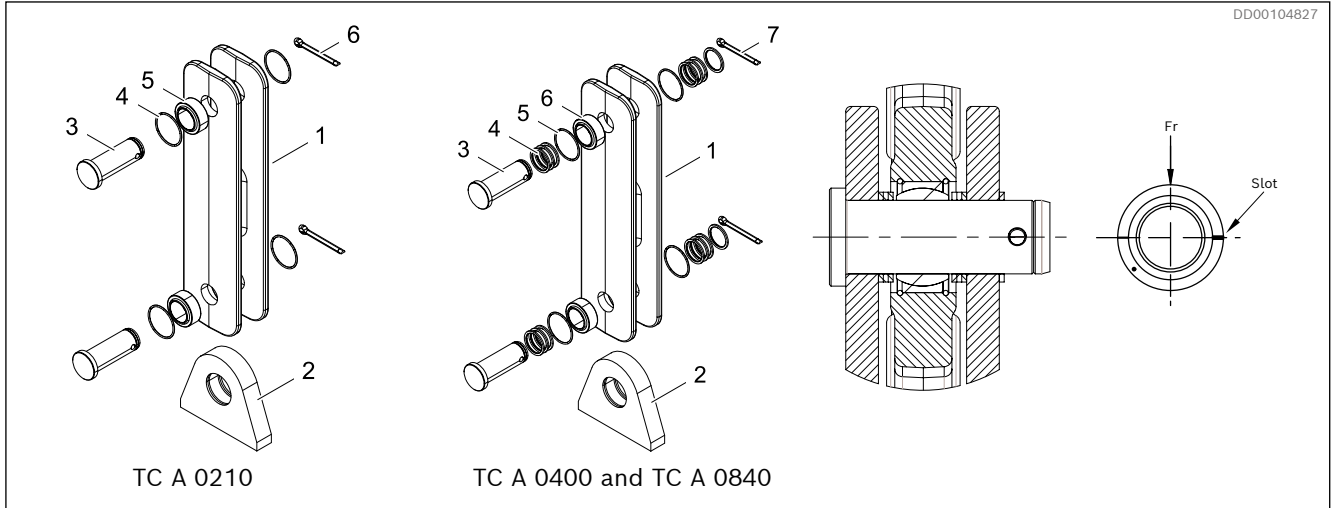
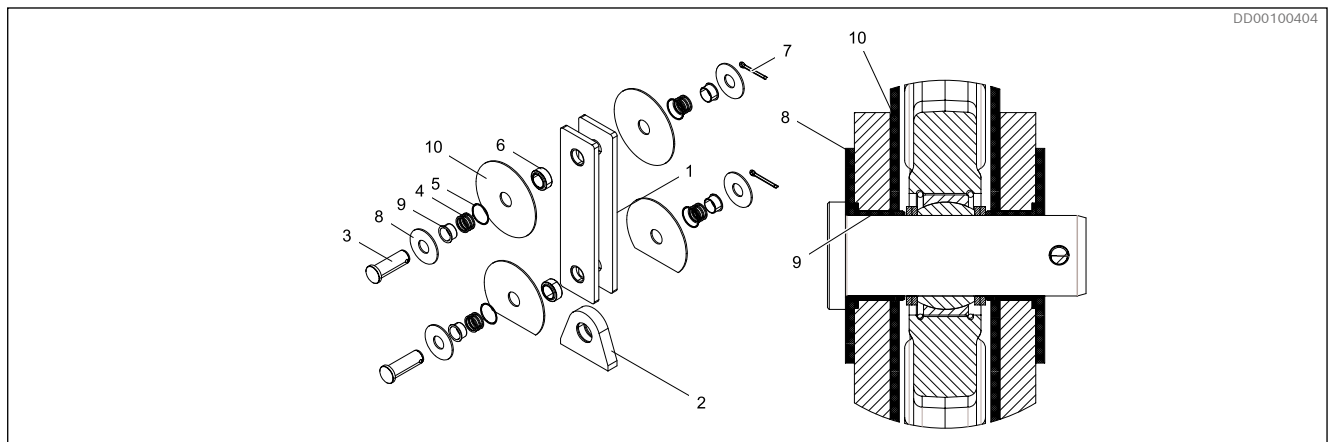

Fig. 22: Standard articulated connection for TC A
Fig. 23: Electrical isolated articulated connection TC A 0400 and TC A 0840
- ▶ The articulated connection and the spherical plain bearing (1) must be dismantled during welding. See Fig. 22.
- ▶ Steel: EN 10025-3 – S355N (1.0545), shall be protected against corrosion after welding (2).
1. The bearing (5)/(6) shall be mounted by using a mounting sleeve or tube applied on the bearing outer ring.
2. The bearing shall be mounted with the slot in the outer ring perpendicular towards the load direction. See Fig. 22 (also valid for Fig. 23).
3. Lock the bearings with the circlips (4)/(5).
4. Assemble the rest of the components according to Fig. 22 and Fig. 23.